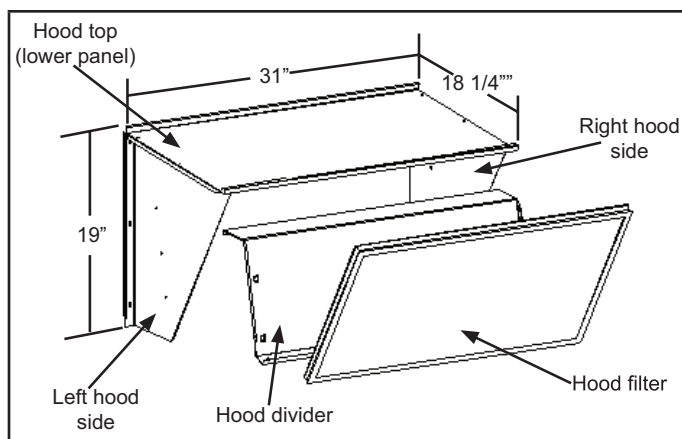

FIGURE 9
- 2 - Screw the hood sides to the hood top, See FIGURE 9.